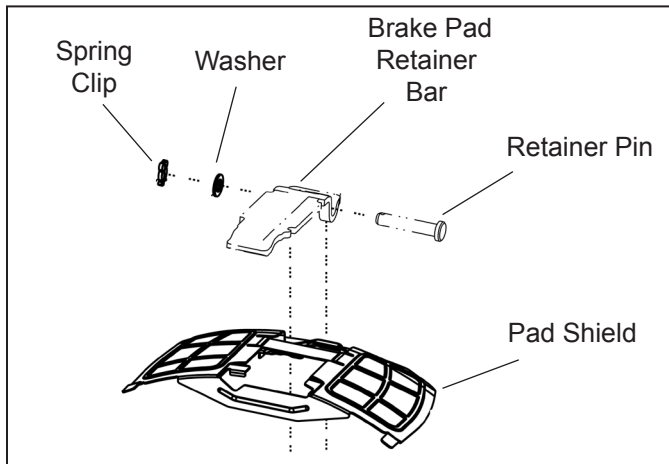

Figure 5 – Pad Shield
3. Remove and retain the pad shield (if equipped). (See *Figure 5*).